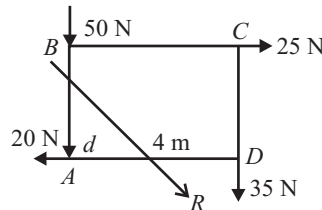

Fig. 7.19
Q. 18: A system of forces is acting at the corner of a rectangular block as shown in fig. 7.19. Determine magnitude and direction of resultant.